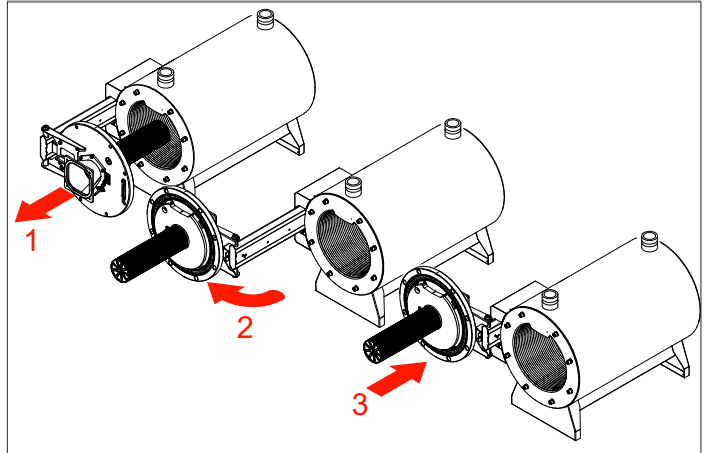

Figure 65 - 1500 - 2000 Model Heat Exchanger Detail - Sliding Out the Combustion Assembly
4. Remove the flow switch from the appliance. See Figure 65.
5. Install the gasket and brass adapter for the hose connection (included with part # 7550P-606) onto the flow switch fitting. See Figure 65-A.
6. Connect one hose to the drain valve (Figure 65-B) and place the free end in a bucket. Connect one of the hoses to the circulation pump outlet and the hose connection adapter installed on the flow switch fitting. Connect the other hose to the circulation pump inlet and place the free end in the bucket.